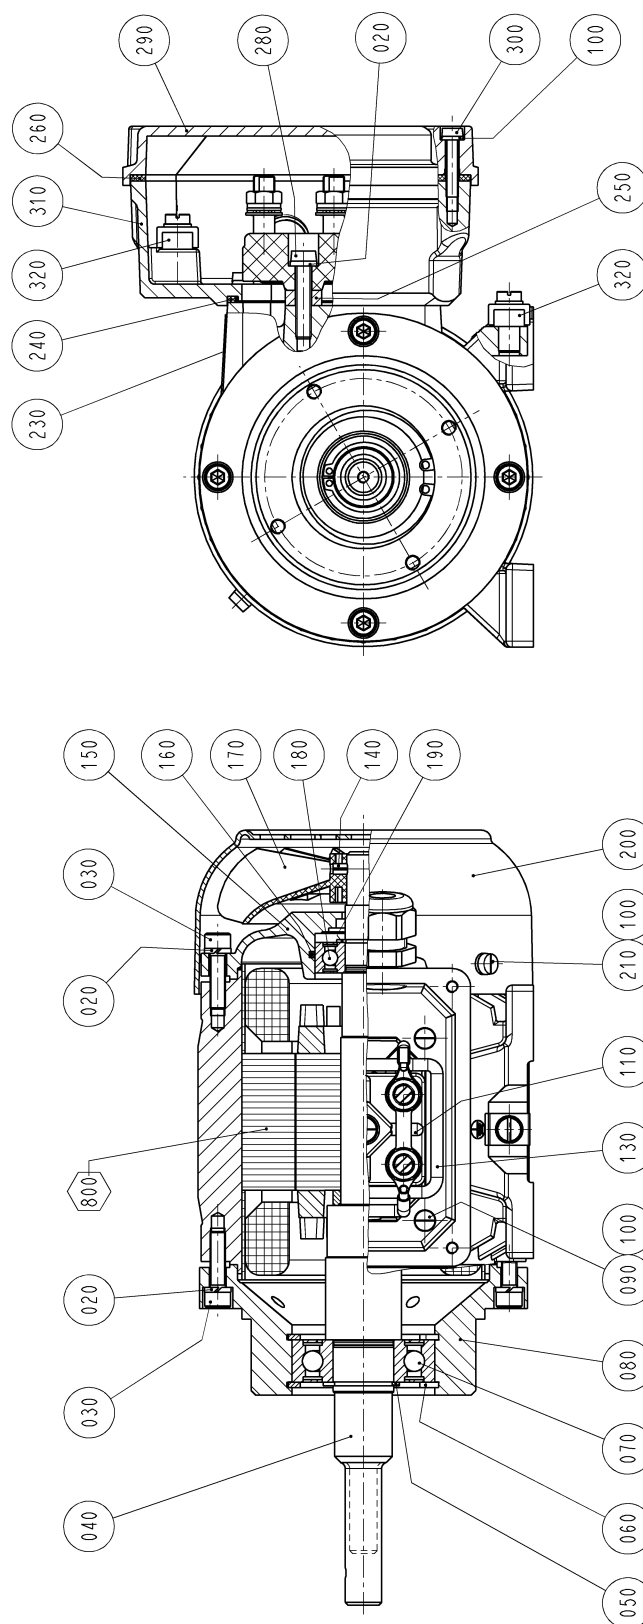

Fig. 10: Explosion-proof 3-phase motor
* According to figs. 10 and 11